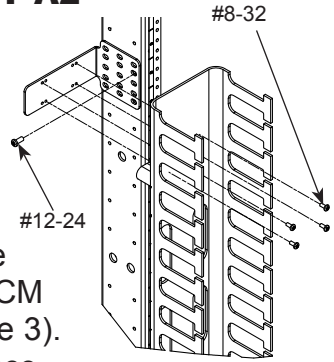

FIGURE 3
1. Remove bracket set A1. Based on the rack that is being used, determine if the VCM will mount to the front or rear of the upright. Front or rear mounting will determine correct orientation of bracket set A2 (see page 5 for details). Once orientation is determined, secure the brackets (2 per each 40" section) to the VCM by using the supplied #8-32 screws (Figure 3). Verify bracket is securely fastened into place.